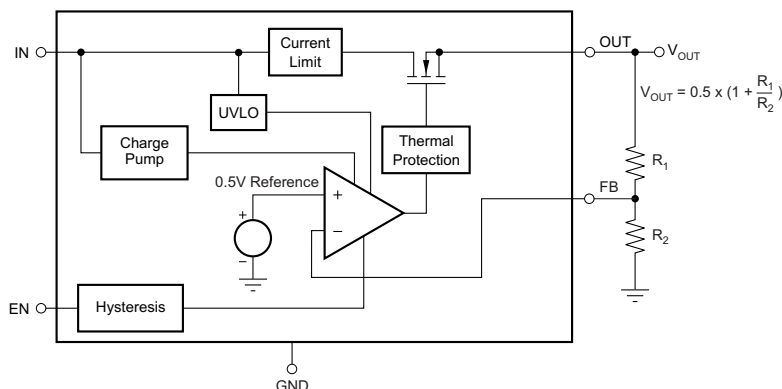

Figure 7. Adjustable Output Voltage Version
- (1) When setting V_{OUT} to a value other than 0.5 V, connect R_2 to the FB pin using $27\text{-k}\Omega \leq R_2 \leq 33\text{-k}\Omega$ resistors. See Figure 7 for details of R_1 and R_2 .
- (2) Accuracy does not include error on feedback resistors R_1 and R_2 .
- (3) TPS7A7002 is not tested at $V_{OUT} = 0.5\text{ V}$, $2.3\text{ V} \leq V_{IN} \leq 6.5\text{ V}$, and $500\text{ mA} \leq I_{OUT} \leq 3\text{ A}$ because the power dissipation is higher than the maximum rating of the package. Also, this accuracy specification does not apply to any application condition that exceeds the power dissipation limit of the package.
- (4) $V_{IN} = V_{OUT} + 0.5\text{ V}$ or 1.425 V , whichever is greater.
- (5) $V_{DO} = V_{IN} - V_{OUT}$ with $V_{FB} = \text{GND}$ configuration.